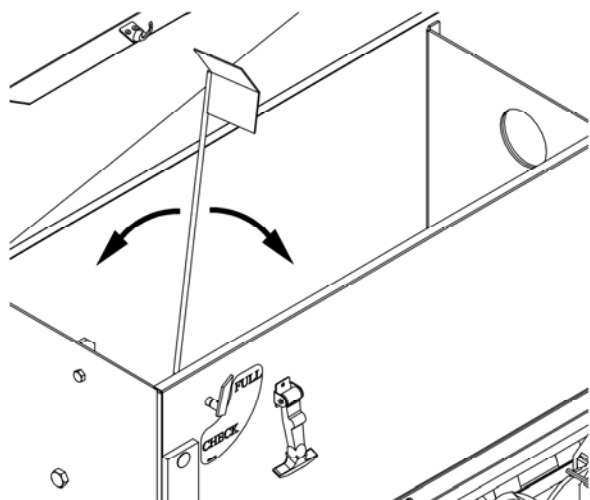

Figure 9. Seed Level Arm
5. Lift the seed level arm and fill the box with seed. Lower the seed level arm on top of the seed, Figure 9.